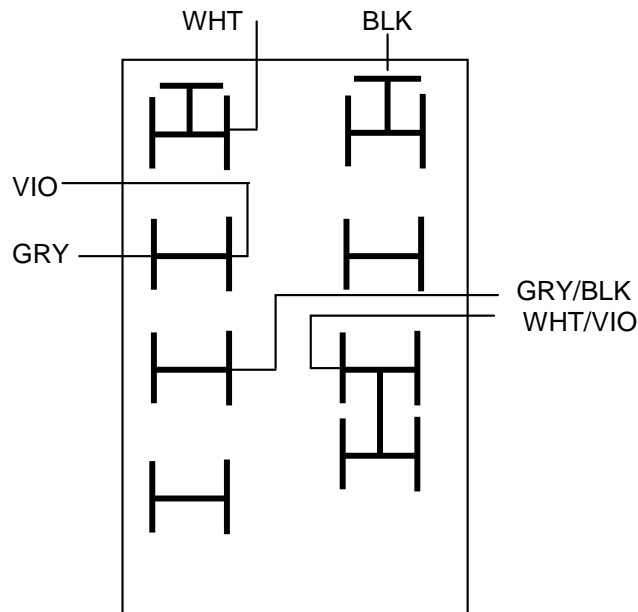

Fig. 5 Wired for 240VAC Operation
- Step 1: Wire transformer terminal block for 240V operation as shown in Figure 5